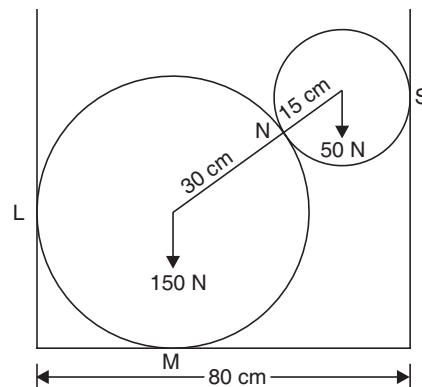

Fig. 2.61
19. Solve for the reactions at  $L$ ,  $M$ ,  $N$  and  $S$  on the two cylinders shown in Fig. 2.61, assuming all surfaces to be smooth.